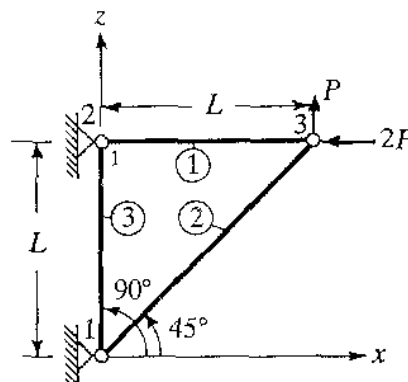

Fig.6
- Q.4 (a)** Consider the three member truss shown in Fig. 6. All members of the truss have identical cross sectional area  $A$  and modulus of Elasticity  $E$ . The hinged support at point 1, 2 and 3 allow free rotation of the members about  $y$  axis (taken as positive into the plane of the paper). Determine the horizontal and vertical displacements at joint 3 and forces in each member of the structure. The governing homogeneous differential equation in usual notations is given as 06